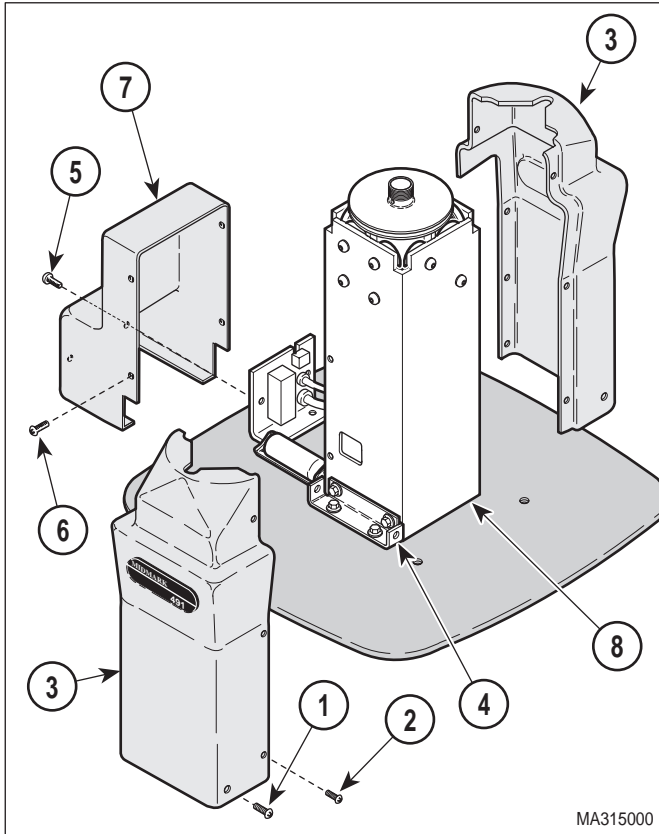

Figure 4-21. Shrouds and Cover Removal / Installation
- (2) Unplug chair power cord from wall outlet.
- (3) Remove four screws (1, Figure 4-21), four screws (2), and R.H. and L.H. shrouds (3) from base mounts (4).
- (5) Install switch cover (2) on elevation column (3) and secure with two screws (1).
- (6) Install motor cover (7, Figure 4-21) on elevation column (8) and secure with four screws (6) and two screws (5).
- (7) Install R.H. and L.H. shrouds (3) on base mounts (4) and secure with four screws (2) and four screws (1).
- (8) Plug chair power cord into wall outlet.